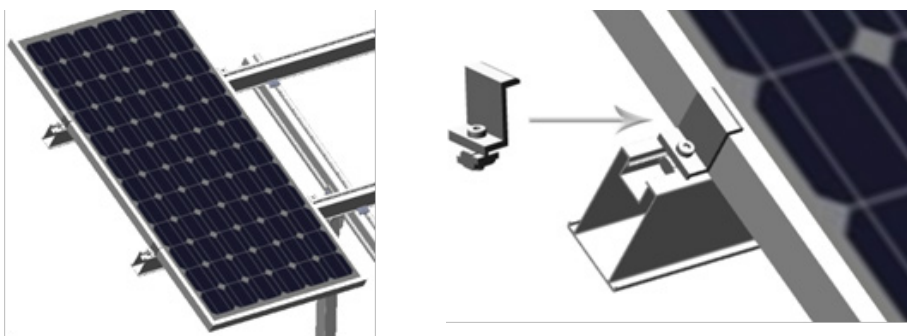

Fig. 23
Step 1 Place the first PV Module on the T Rails according to your plan and apply the End Clamps to fix it in place. Then fasten lightly with the Allen Key as shown in Fig. 23.